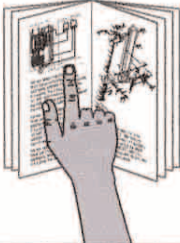

**Figure 9.** Magnetic switch.
6. Replace the original magnetic switch assembly with the assembly included in the 440V conversion kit. Set the dial on the new overload relay to 11A (**Figure 9**).